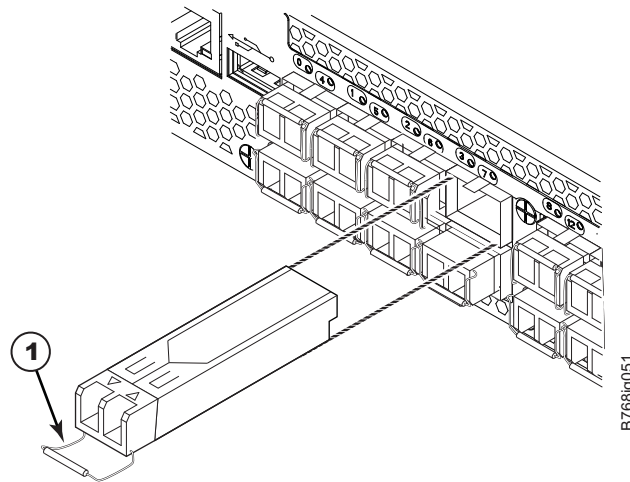

Figure 43. Removing and replacing an SFP+ optical transceiver
3. Using the hooked end of the tool, pull the bail (wire handle) **1** away from its pivot point and out, sliding the transceiver out of the port (Figure 43).